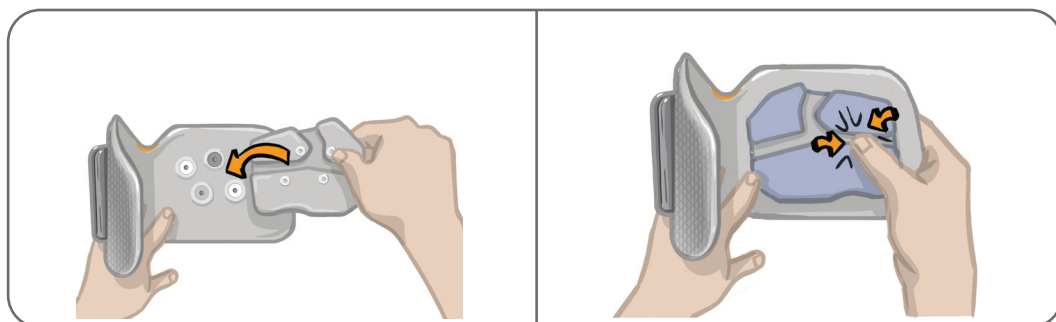

Figure 6-8: Aligning and Attaching the Steering Electrode
5. Align the snaps on the Steering Electrode with the plug holes on the Lower Leg Cuff. See Figure 6-8.
6. Press firmly to snap the Steering Electrode into the Lower Leg Cuff. Make sure to press on the areas above all four snaps. See Figure 6-8.